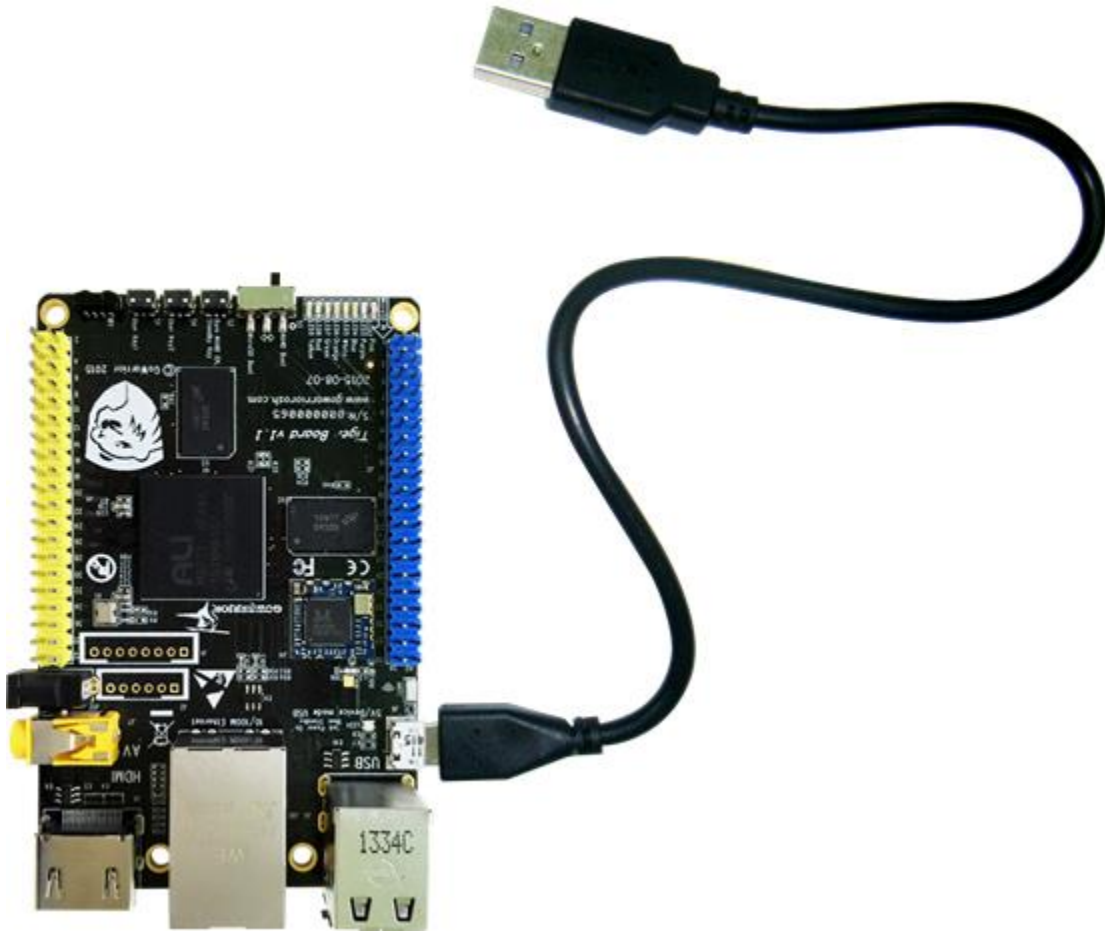

Figure 13. Micro USB Power
1. The final step is to plug in the Micro USB cable to the Micro USB Connector as shown in Figure 13 below.